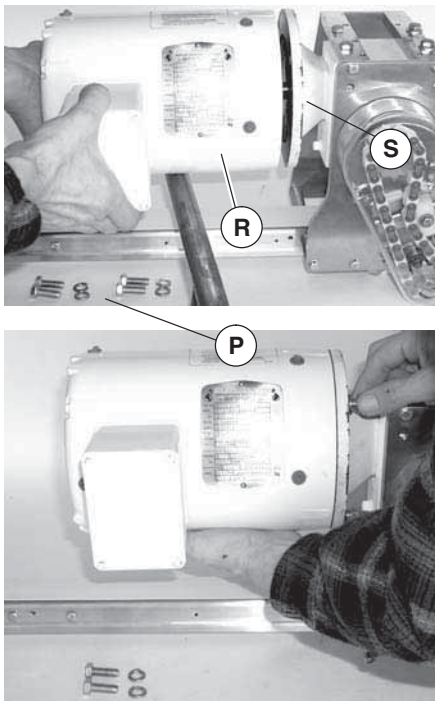

Figure 19
Be extremely careful when coupling motor (Figure 19, item R) to gear reducer (S). Avoid misalignment and forcing the connection causing possible permanent gear reducer seal damage.
3. Attach motor (R) to gear reducer (S) with four screws and lock washers (P). Tighten screws to 32 ft-lb (41 Nm).